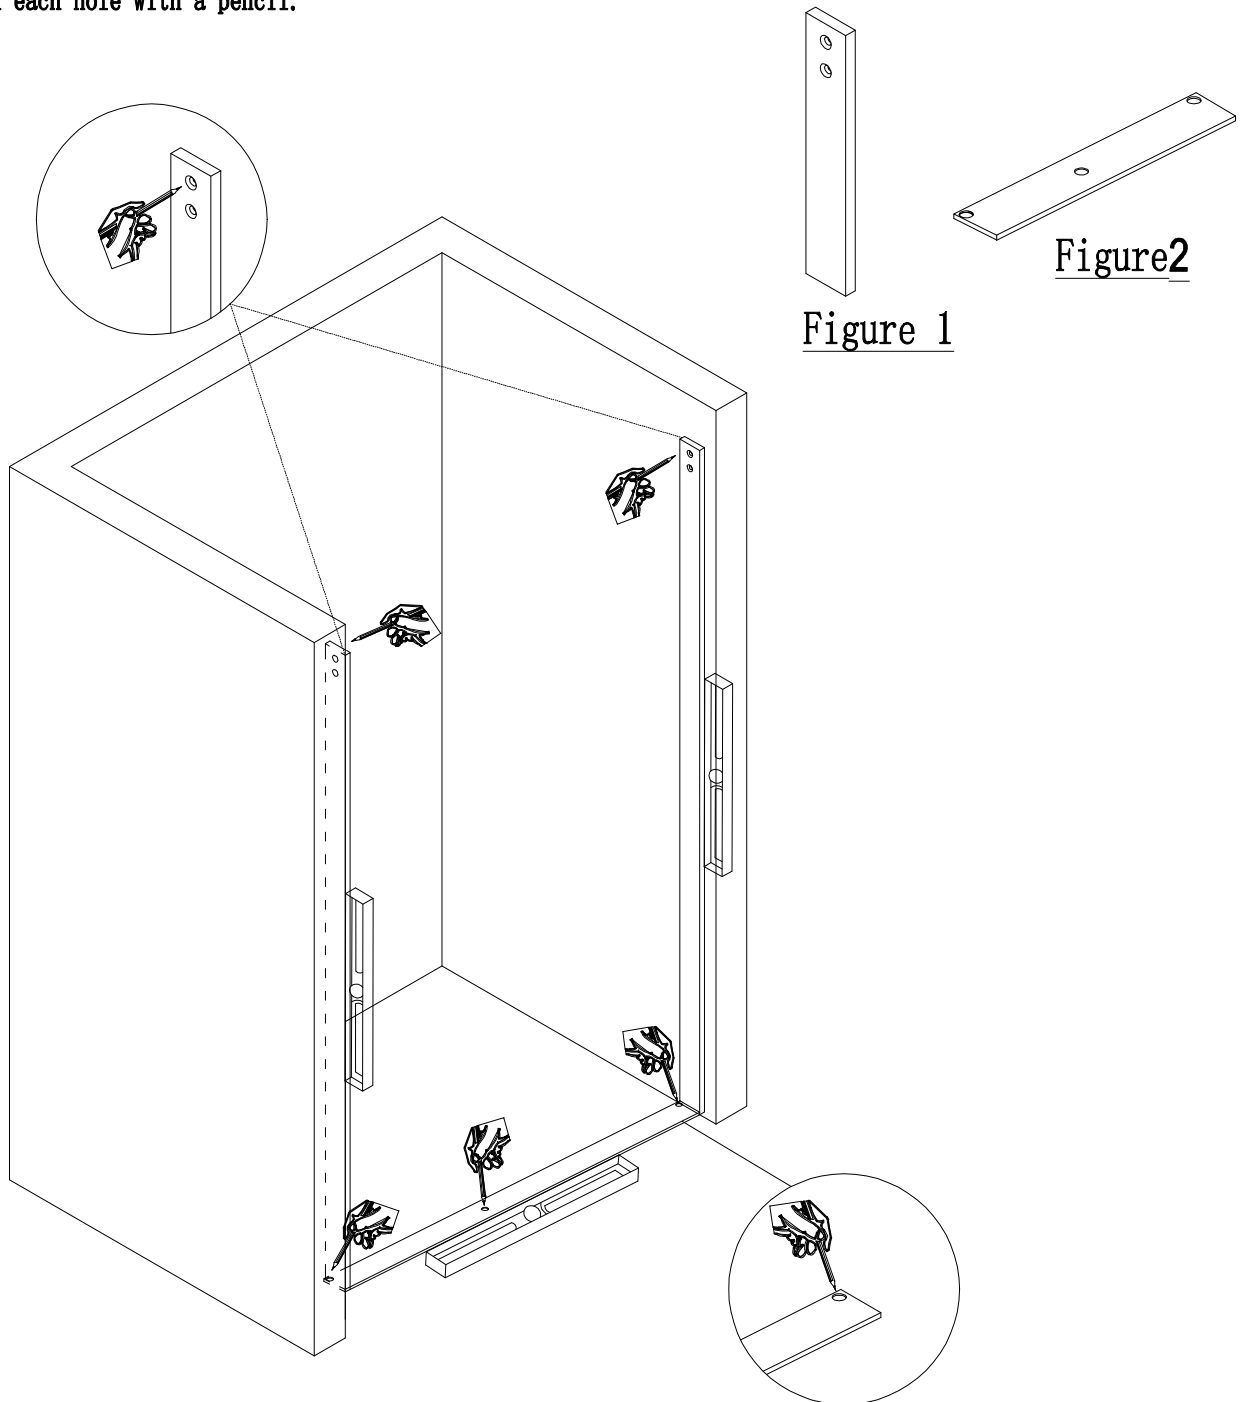

Figure 4A
3. As shown in Figure 4A below: First measure the level of the hole marking template with a level. Then mark each hole with a pencil.